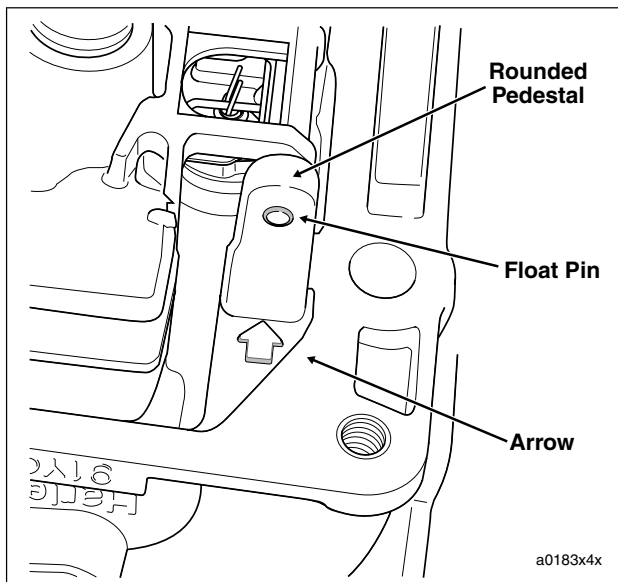

Figure 4-8. Remove Float Pin in Direction of Arrow
- Using a small center punch and hammer, carefully tap float pin from holes in pedestals. The rounded pedestal has an interference fit to ensure that the float pin is securely held, so always tap out the pin in the direction of the cast-in arrow (that is, from the interference side). See Figure 4-8.